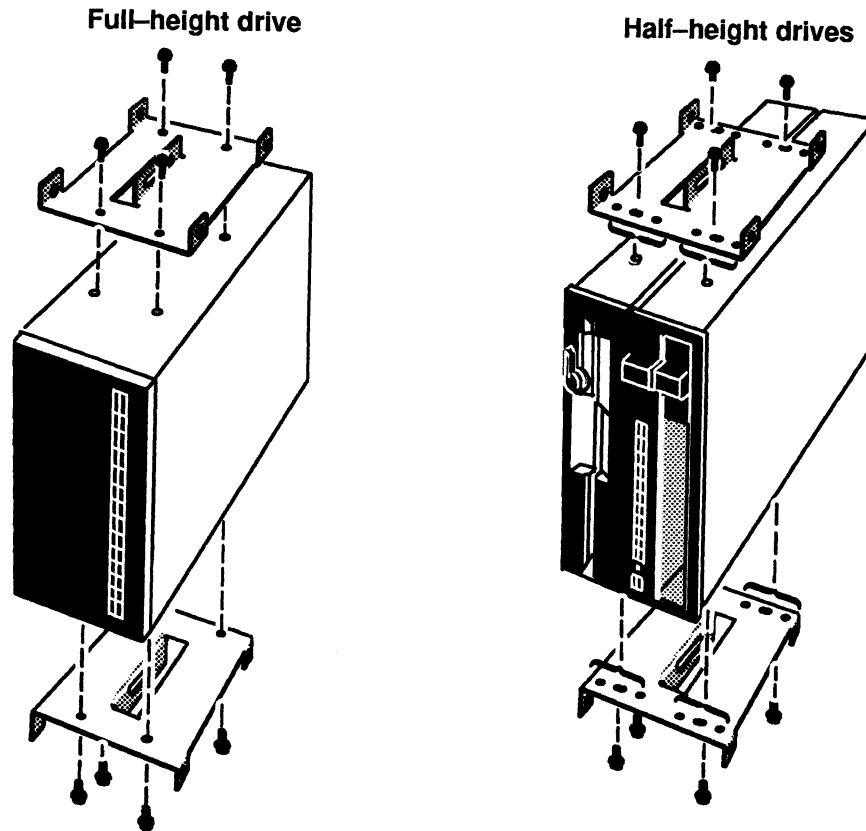

Figure 2-10 Attaching Brackets to Drives
2. Attach the two brackets to the new drive with the eight mounting screws and washers (four for each bracket) as shown in Figure 2-10. If you are only adding one half-height drive to the brackets, you only need to use four screws and washers (two for each bracket).